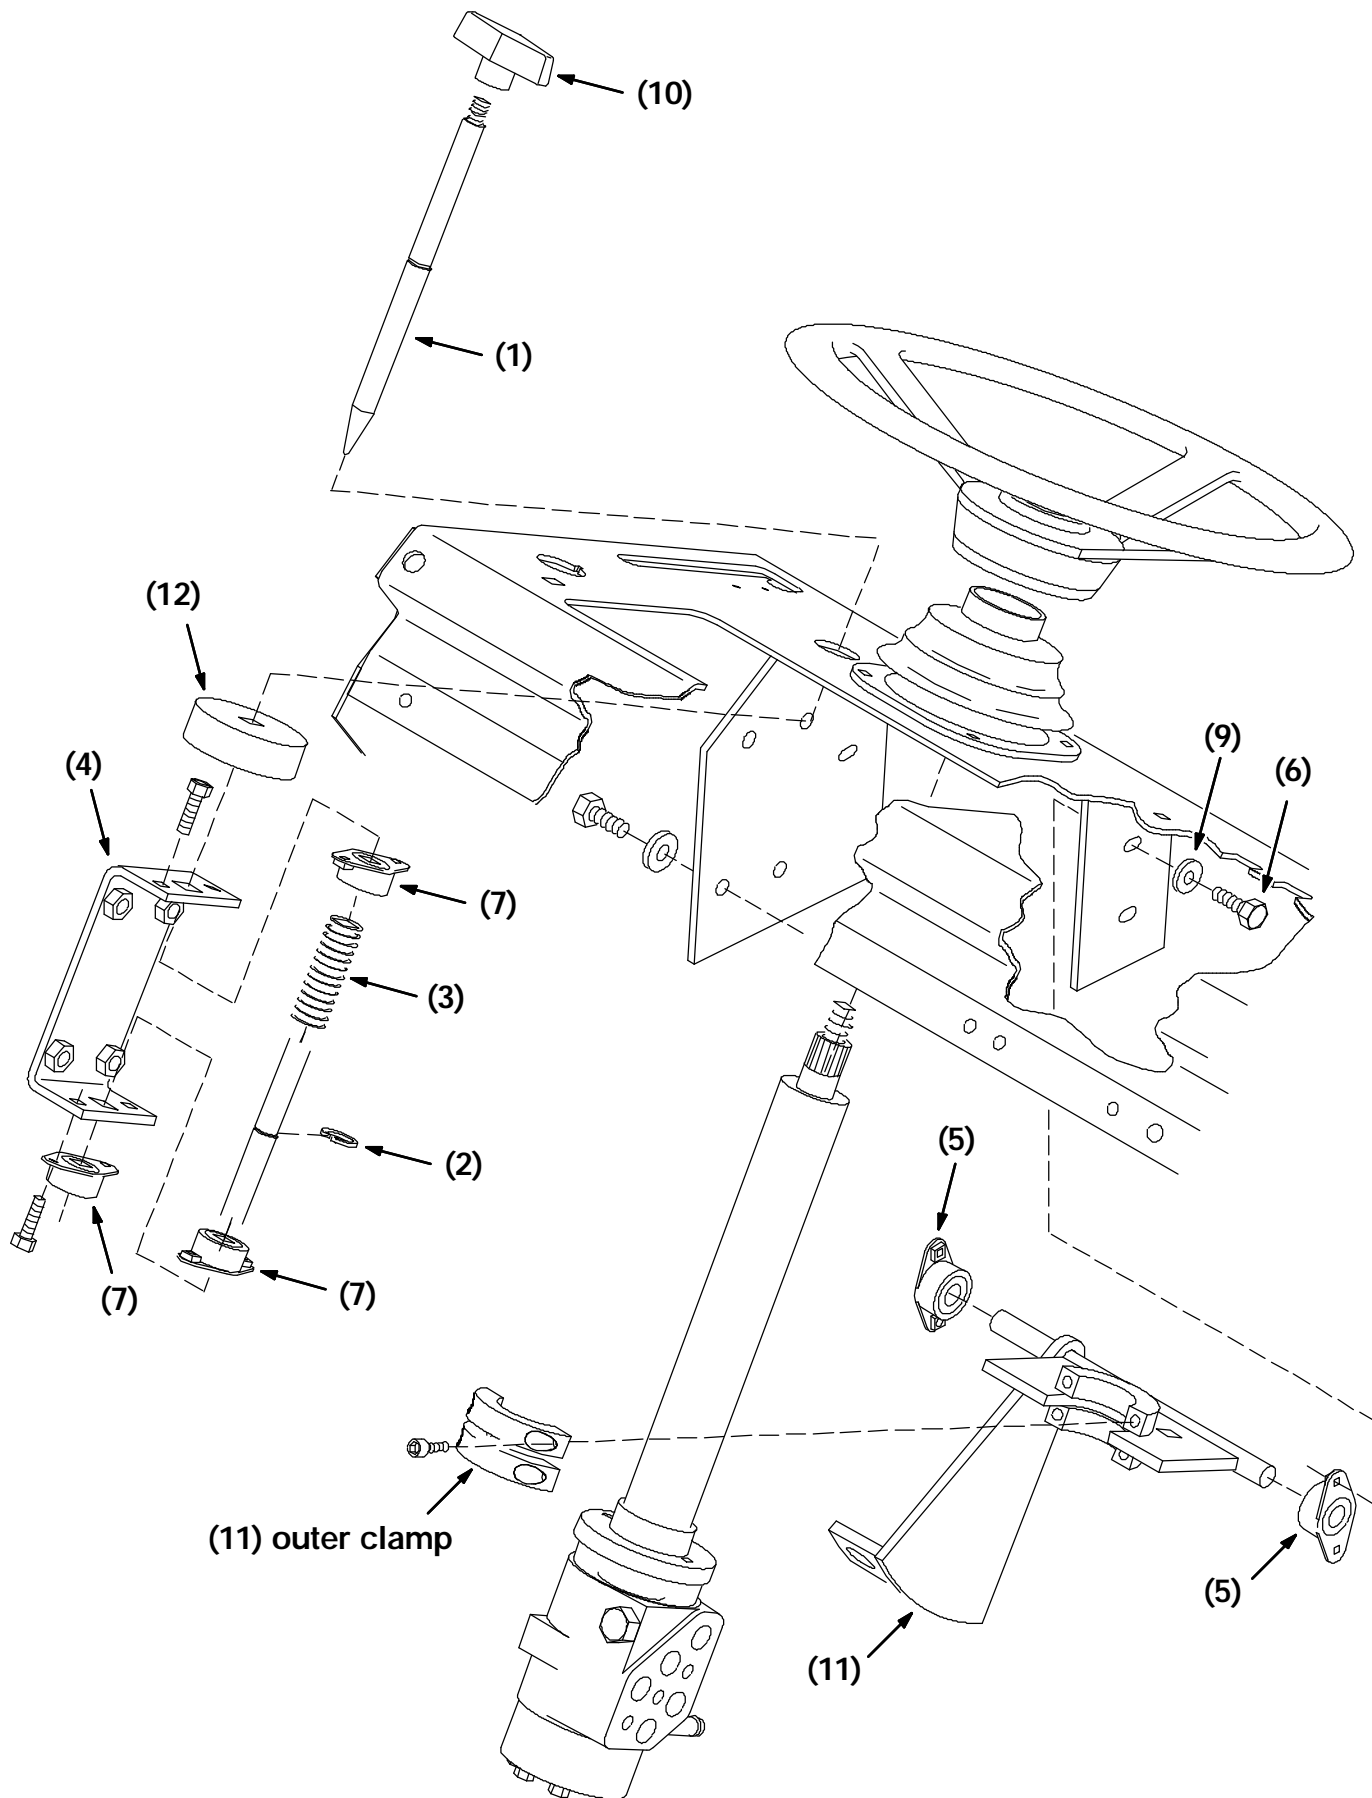

FIG. 2 - Tilt Steering Assembly
5. Position the two flange bearings (5), these are the bearings with nuts installed on the flange, on each end of the tilt bracket (11). The flange goes to the outside. (Refer to FIG. 2)
6. Pull the steering hydraulic motor and column upward. Slip the tilt bracket assembly under the motor and in position between the two mount brackets. Install four hex screws (6) and four flat washers (9). Tighten to 7 - 10 ft lbs. (Refer to FIG. 2)
7. Position the steering column into the pivot bracket (11) and install the outer clamp over the column. Hand tighten the screws tight. (Refer to FIG. 2)
8. Locate the latch channel mount (4). Install three flange bearings (7), two inside the bracket flanges, and one on the bottom of the channel mount (4). Use the four hex screws (8) and nuts (13). Tighten to 7 - 10 ft lbs. (Refer to FIG. 2)
9. Locate the latch channel mount (4). Install the latch rod (1) through the bottom two bearings (7), through the compression spring (3), and then through the last bearing (7). Then push the compression spring up the rod and install the retaining ring (2). (Refer to FIG. 2)
10. Install the bearing seal (12) over the upper end of the latch rod (1). (Refer to FIG. 2)
11. Install the latch assembly into the machine. Push the latch rod (1) up through the hole in the dash panel. (Refer to FIG. 2)
12. Line up the mount holes in the latch bracket with the mount holes in the mount plate. Install four hex screws (6) and four flat washers (9). Leave the hardware loose for now. (Refer to FIG. 2)
13. Install the handle (10) on the upper threaded end of the latch rod (1). Hand tighten tight. (Refer to FIG. 2)
14. Push the steering wheel and column up all the way. Push the latch pin (1) into the lowest hole in the pivot bracket (11). Tighten the four latch bracket hex screws to 7 - 10 ft lbs. (Refer to FIG. 2)